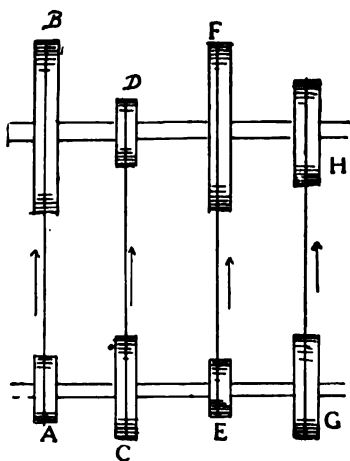

Fig. 6
speeds and requiring more or less power. If your machines are arranged near together it is a very easy matter to transmit the power from your motor. By placing a shaft above the motor and furnishing this shaft with pulleys of various sizes you can obtain various speeds from a single line of shaft. This is illustrated in Fig. 6. The engine pulley (A) is connected to a much larger pulley (B) on the overhead shaft,